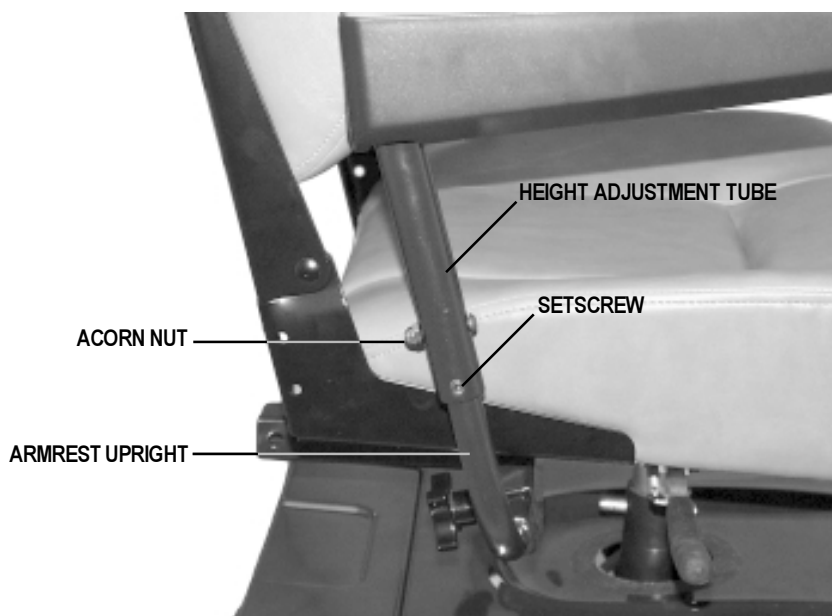

Figure 14. Armrest Height Adjustment
1. Loosen the setscrew on the side of the height adjustment tube with the 1/8 inch hex key. See figure 14.